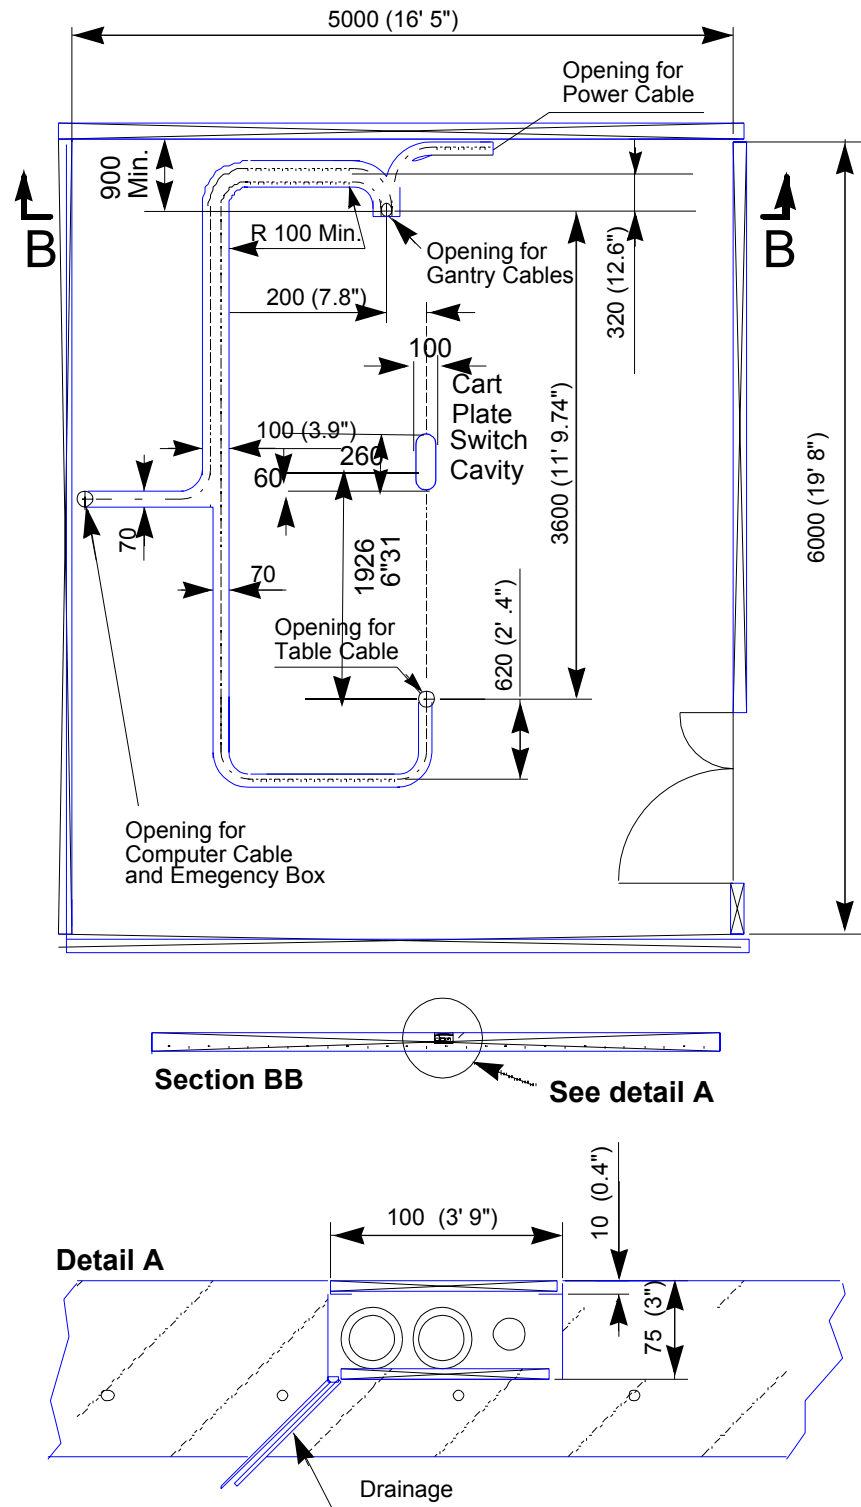
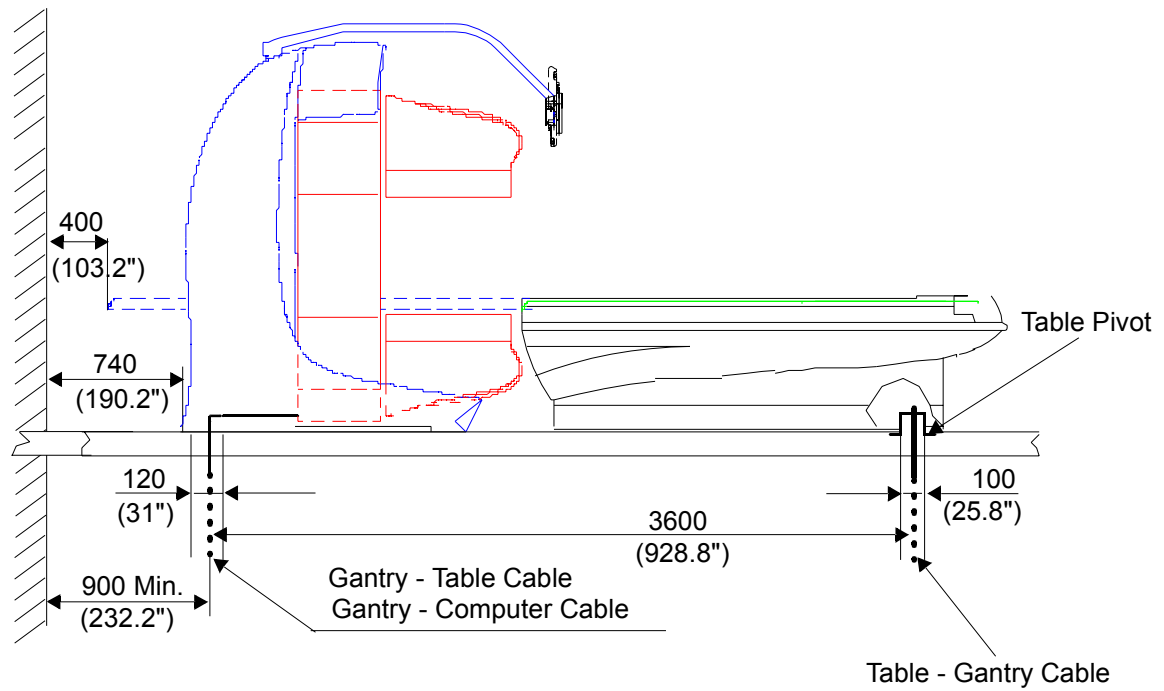

Figure 4-7. Example of Built-in Ducts Location and Measurements
Figure 4-8. Cables Penetration Through the Floor
An example of locations and measurements of ducts built in the floor is provided in Figure 4-7. An example for ducts routed beneath the floor is provided in Figure 4-8.
A hole with a depth of 40 mm must be dug in the floor for the Cart Plate Switch Cavity as shown in Figure 4-7.
1. If the concrete can not accommodate the ducts, drill through the floor and route the ducts beneath the floor as shown in Figure 4-8.
The cables should be routed under the floor. For floor drilling see Figure 4-8. **Keep in mind that drilling can be done only in between beams.**
For cable routing, refer to Figure 4-7 and Figure 4-8, which ever applies to your site.